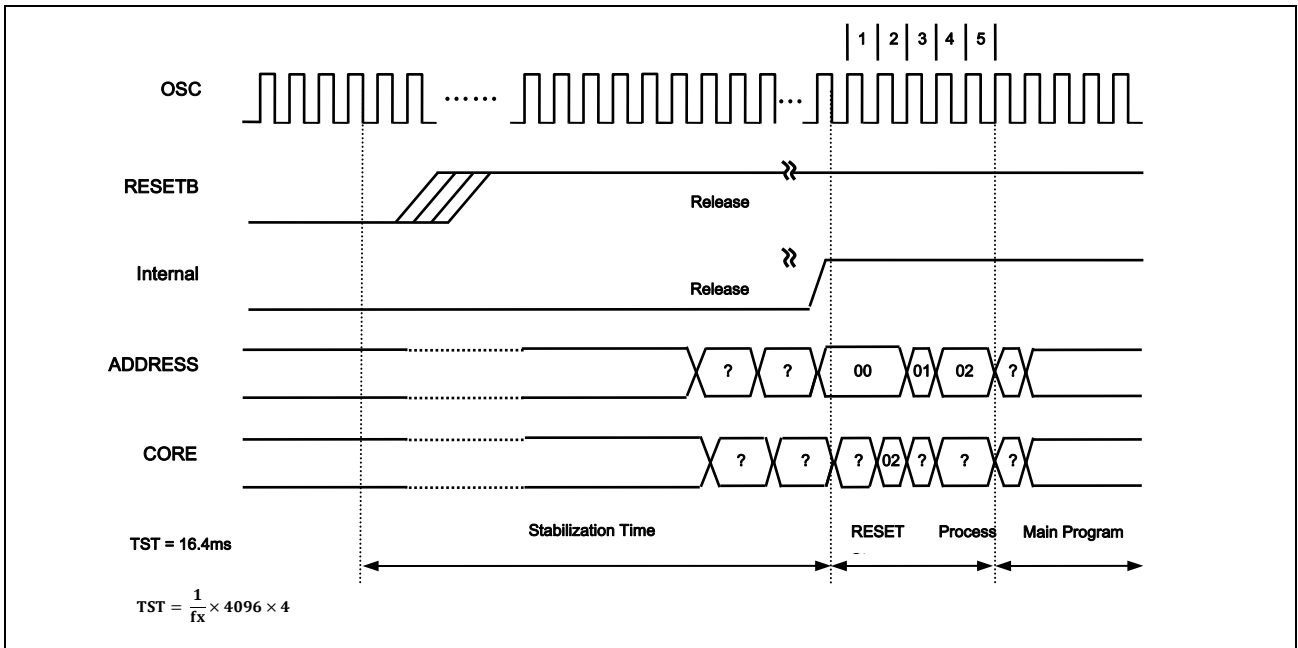

Figure 127. Timing Diagram after RESET
1. As shown Figure 127, the stable generating time is not included in the start-up time.